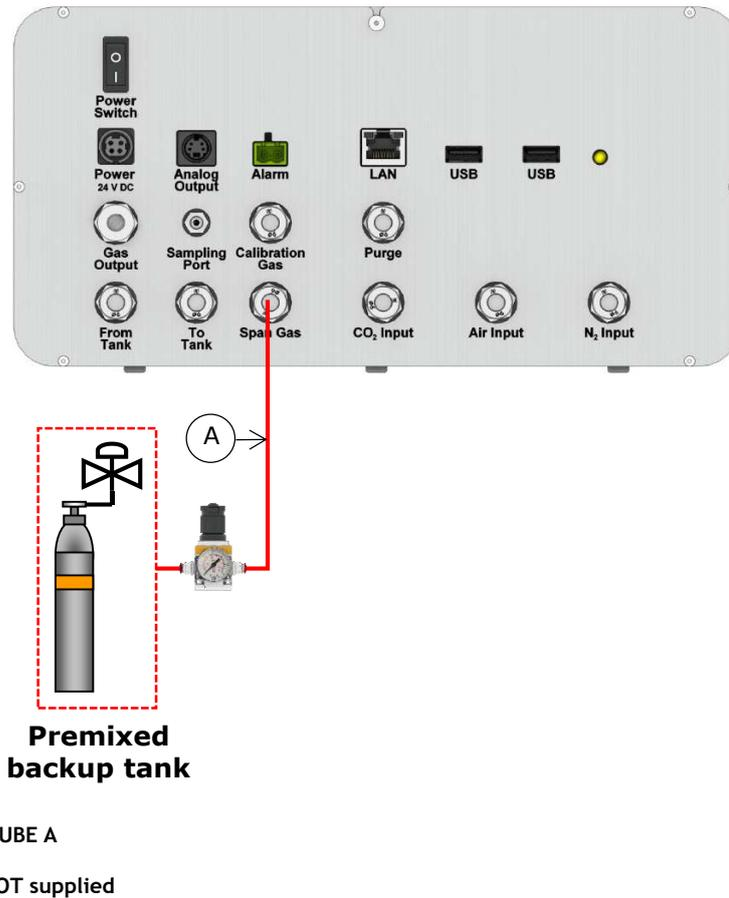

Figure 13 Premixed backup tank connection to the rear panel of the Tri-Gas-Mixer
- If a premixed back up gas tank is available (not supplied by Okolab), introduce the pressure gauge (supplied by Okolab) between the Premixed back up gas tank and the input gas port labeled “Span Gas” on the rear panel of the Tri-Gas-Mixer, as shown in Figure 13. To install the pressure gauge follow the instructions at the point 2.